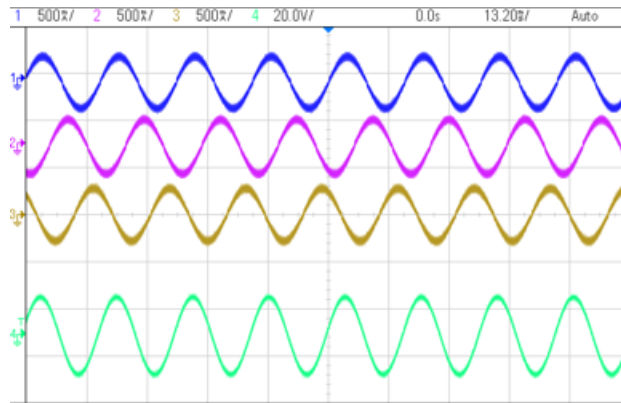

Figure 32. Build Level 2: Scope Capture IL1, IL2, IL3 and V1 (120Vrms L-N) With Current Loop Closed
- Once the input has stabilized to 120 Vrms, raise the iLRef so the guiVbus is 600 V; for the test conditions specified, this will correspond to iLRef = 1.65. The current waveforms will look like Figure 32.